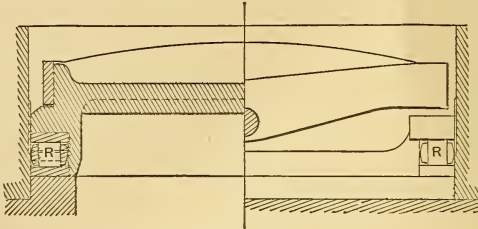

Fig. 83. Bristol Roller Valve.
A. The valve rested on a number of small rollers RR (figures 83, 84), each side connected to a frame, their axles having a little play in their journals. Steel plates were attached to the valve on each side and others to the valve-seat, so that the rollers rested on the latter below and the valve was carried by